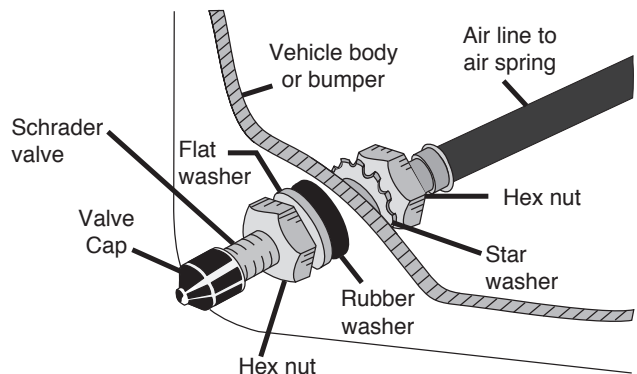

fig. 18
5. Push the inflation valve through the hole and use the rubber washer, flat washer and another 5/16" nut to secure it in place (fig. 18). Tighten the nuts to secure the assembly.